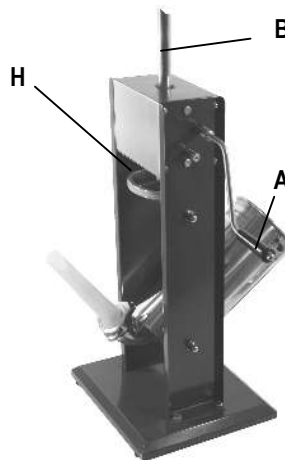
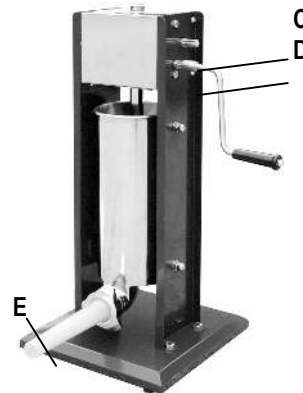

Figure 1
Figure 2
1. The Food Hopper (A, Figure 1) pivots from the bottom to the rear of the stuffer to allow you to fill it with the mixture of your choice.
2. Once filled, restore the Food Hopper to its upright position and snap it in place. NOTE: The Food Hopper can only pivot if the Rack (B) is raised completely clear of the inside of the cylinder. If lowered to the horizontal position, the Food Hopper can be removed for cleaning or servicing.
3. Use the High Speed (C) Gear for quick reverse. Use the Low Speed (D) Gear (Figure 2) to force the mixture down the cylinder into the sausage stuffer of your choice (E, Figure 2).